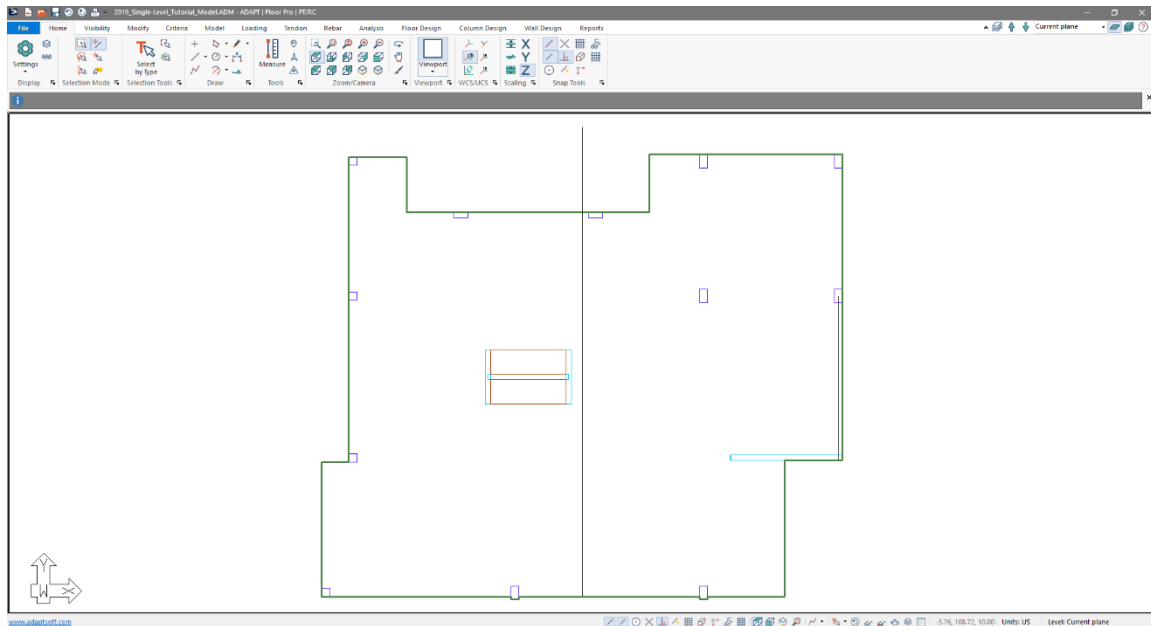

Figure 8-25
- We should now have a vertical line at the center of the horizontal width of the structure as shown in **FIGURE 8-25**.